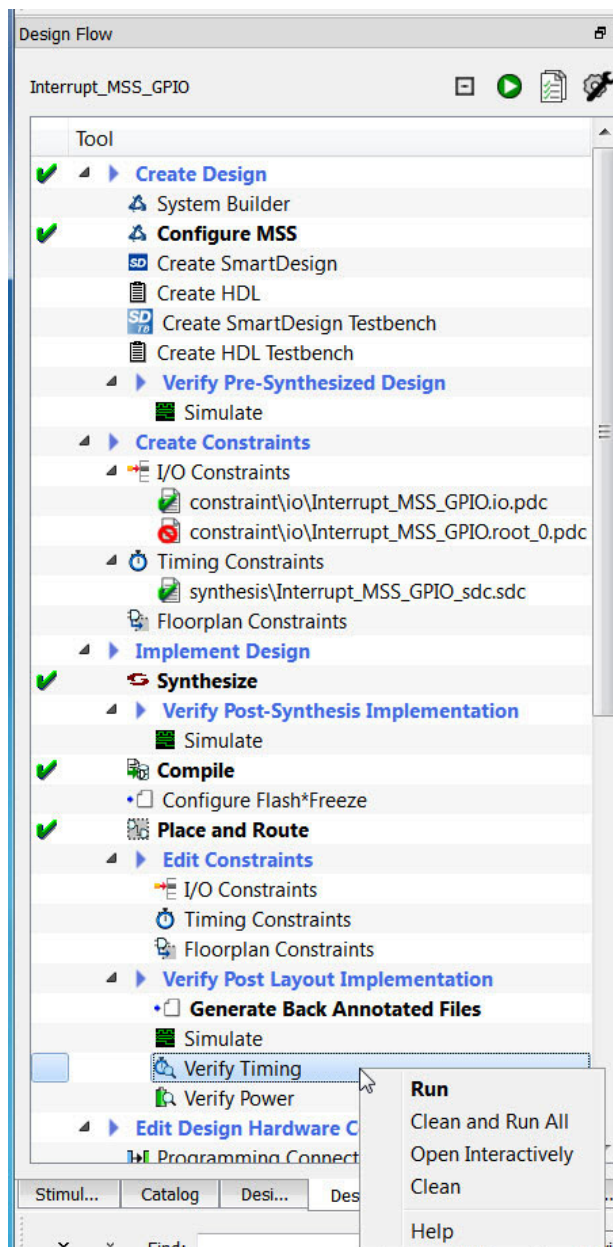

Figure 5-5 • Verify Timing
1. In the Design Flow window, right-click **Verify Timing** and choose **Open Interactively** to open SmartTime. Confirm that the fabric clock (mss_ccc_glb) meets the timing requirement (10 MHz). (Figure 5-5).